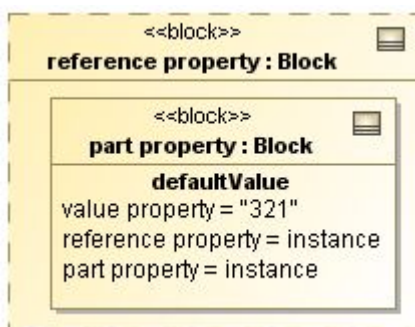

Figure 68 -- defaultValue Compartment
NOTE	If the property has no default value, drag an instance with slot(s) to the property symbol. The instance will then be assigned as the default value for this property, and its slots with values will be displayed inside the property symbol (Figure 68).
- The default value of the property will be displayed. If the default value is an Instance Specification, the **defaultValue** compartment containing the Instance Specification slot(s) will be displayed instead (Figure 68).